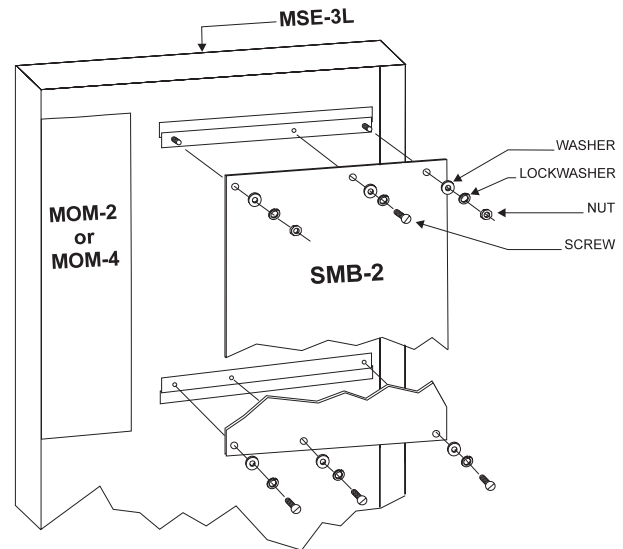

Figure 23
(Refer to Figure 23)
- a. Place the SMB-2 over the two studs in the upper right-hand portion of the backbox (See Figure 23).